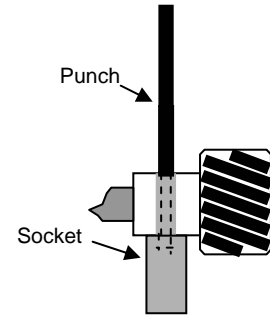

Fig. 16C
E. Using a small socket resting on a solid surface as a backup, (**Fig 16C**) a ball pain hammer and pin punch was used to drive pin into shaft and gear. The socket provided support for the gear while allowing opening for pin to be driven tight into the shaft and gear. The upper end of the pin was then peened over with the hammer and punch making it larger in diameter and tight in the hole.